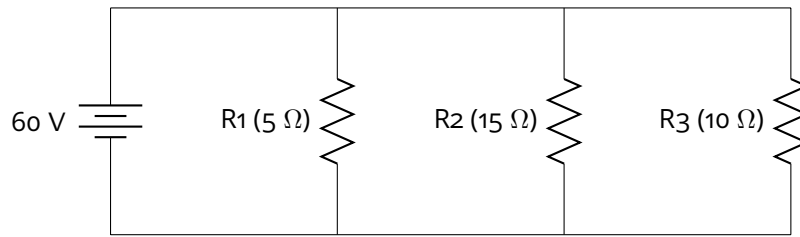

Figure 3: Parallel circuit with resistors 5 Ω, 15 Ω, 10 Ω
• E.g. For the circuit in figure 3,